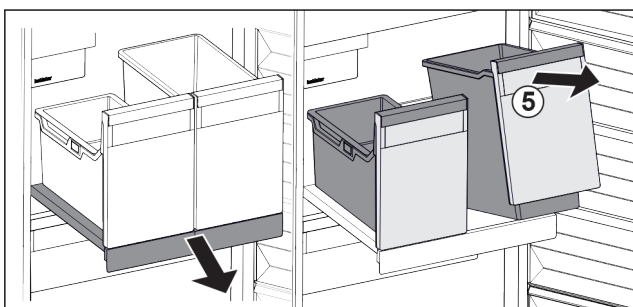

Fig. 23
- ▶ Lift the container Fig. 23 (5) at the front.